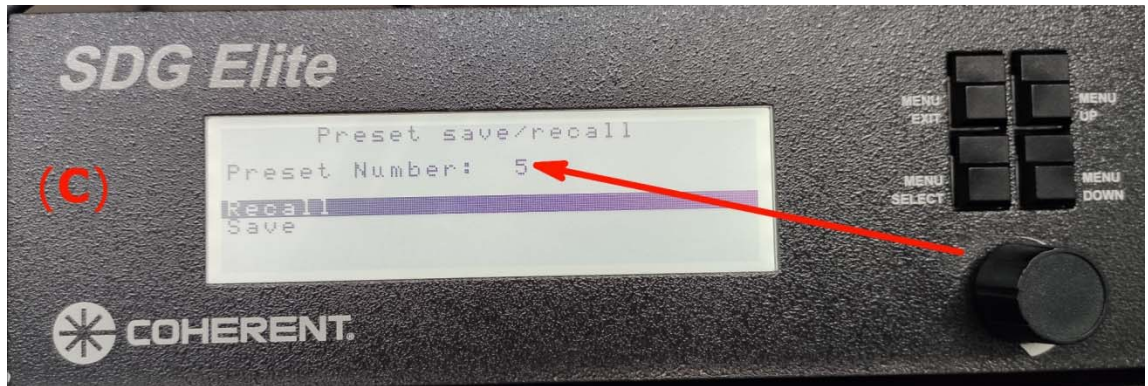

Figure 2.
- b. From the timings screen of SDG controller, enter the main menu by pressing “Menu Select” button, and navigate to “Recall/Save Setup” using “Menu Up” and “Menu Down” buttons. Press “Menu Select” to enter the submenu. To return to the upper level of the menu use “Menu Exit” button (Figure 2(A) and Figure 2(B)).
- c. In the “Preset save/recall” menu use “Menu Up” and “Menu Down” buttons to select “Recall” item. Use the knob to select the desired slot number (5 for 1 kHz operation and 1 for 5 kHz operation. Figure 2(C)). Then use “Menu Select” button to recall timings. Press “Menu Exit” button several times to reach the main screen (Figure 2(A)).